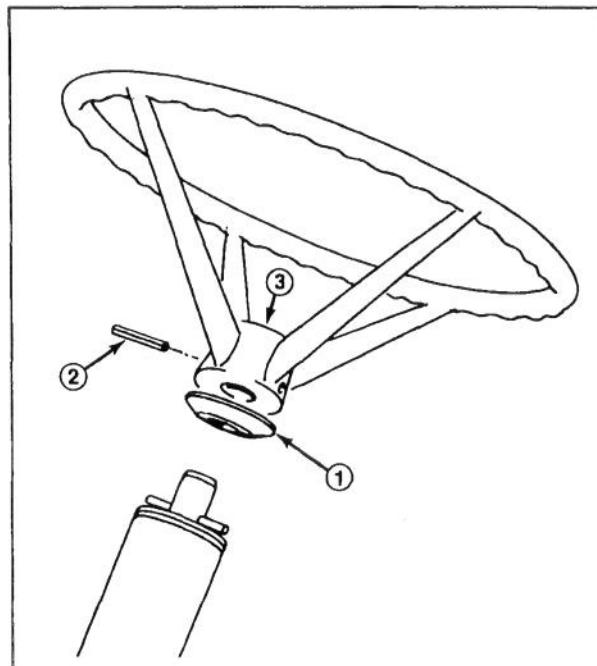

Figure 2
1. Slip spacer onto steering shaft until groove in spacer fits over roll pin in shaft (Fig. 2).
**Note:** Steering wheel insert (Fig. 2) should be readable from operator's position on rider with wheels turned straight ahead.